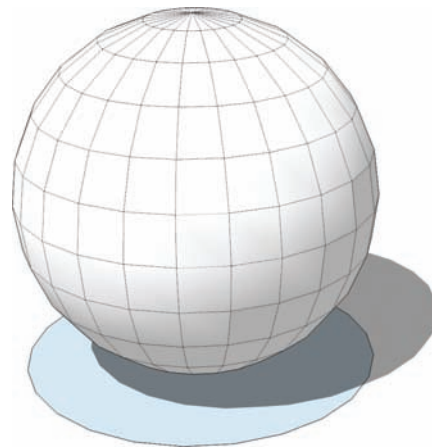

Fig. 8-16: The Follow Me tool will cause the face of the vertical circle to follow the edge of the horizontal circle edges, generating a sphere.
8. The vertical circle's face will "follow" the selected edge of the horizontal circle and create a sphere (Fig. 8-16).